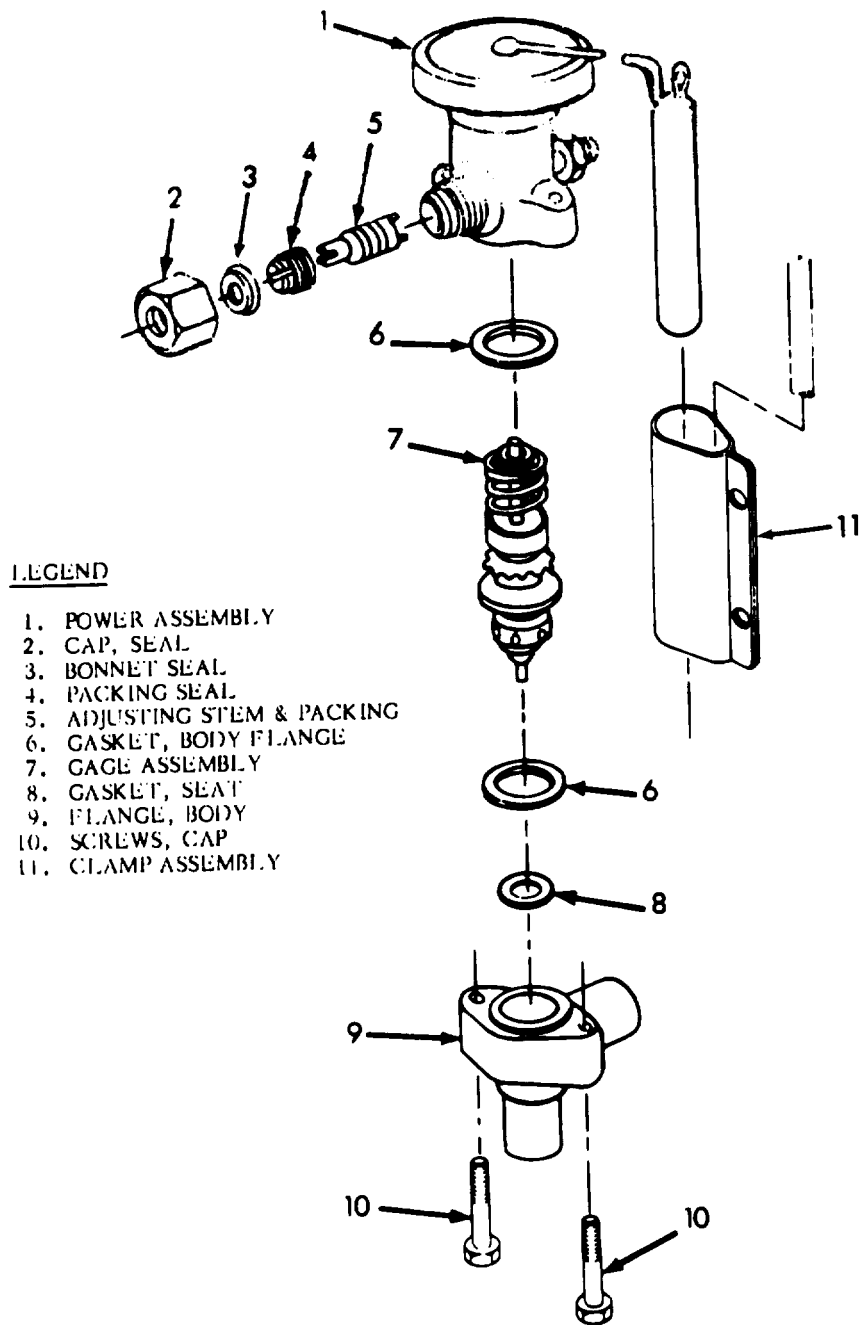

Figure 5-9. Typical Therma¹ Expansion Valve
5.76. Description (See figure 5-9).
A refrigerant gas is said to be superheated when its temperature is higher than the evaporating temperature corresponding to its pressure at saturation. When a thermal expansion valve is set for optimum superheat (in this case 6°F or 3.3°C above the evaporating temperature of the refrigerant at a given pressure) the evaporator coil operates at maximum efficiency. That is, the refrigerant gas does not become warm before reaching the end of the coil, which would reduce the coil's cooling capacity, and the refrigerant does not remain in the liquid state after passing completely through the coil, which could result in severe damage to the compressor. When the expansion valve is properly adjusted, the temperature difference (TD) across the evaporator should be 18-22 degrees F while the air conditioner is operating normally. Compare the dry bulb temperatures of air entering and leaving the evaporator to find the TD. The temperature at the evaporator discharge grill will depend upon the return air temperature. The superheat setting of a thermal expansion valve can be adjusted by varying the setting of a compression spring (7, figure 5-9) in the power assembly of the valve. This spring tends to hold the valve closed against the pressure in the sensing bulb and capillary tube; therefore, the greater the spring pressure, the higher the superheat. Check superheat, and adjust if necessary, in accordance with the following procedure:
(1) Evaporator expansion valve: $6^{\circ} \pm 1.5^{\circ}$ For $3.3^{\circ} \pm 0.8^{\circ}\text{C}$
(2) Quench expansion valve: $30.4^{\circ} \pm 0.5^{\circ}$ For $16.7^{\circ} \pm 0.3^{\circ}\text{C}$
f. If the superheat setting is not within the limits shown above (higher than values in Table 5-2), adjusting the expansion valve as follows: (See figure 5-9).
(1) Remove the hexagonal seal cap (2, figure 5-9) from the side of the powe rassembly (1), and loosen the bonnet seal (3).
(2) Turn the adjusting stem (5) two complete turns to change superheat one degree F. Turn clockwise to raise, and counterclockwise to lower. the superheat setting. Do not turn more than two full turns. then wait two minutes for temperature to stabilize before observing temperature and pressure readings.
(3) When the proper setting is obtained, replace the screw cap and seal on the valve adjusting stem (5).
Whenever a leak is detected or a refrigeration component must be replaced, you must discharge all gas from the refrigeration system (paragraph 5.22.a). Refer to figure 5-8 for identification of service valves. Remove the expansion valve from the air conditioner as directed in the following steps: (See figure 5-9).
a. Disassemble the valve by removing two capscrews (10) that secure the power assembly (1) to the valve body (9), and separate the two.
d. Install power assembly (1, figure 5-9) on valve body, being careful to fit lugs on the cage assembly (7) into the cavities in the body (9). Secure with two capscrews (10). Connect equalizer line, if applicable.
- (1) Unscrew the equalizer tube flare nut from the power assembly of the valve. (See figure 5-9).
- (2) Remove two mounting screws (10, figure 5-9) from the bracket and valve body. Carefully separate the power assembly (1) from the valve body (9), and remove gaskets (6 and 8) and cage assembly (7).
- (3) Provide a flow of 1-2 cfm (0.1 -0.2 M³/min) of dry nitrogen through the system from the discharge service valve for at least three minutes, then debraise the liquid line from the expansion valve.
c. Position the liquid line expansion valve body (9, figure 5-9) on its support bracket, and align by securing with two screws (10) and slave nuts. Do not install power assembly at this time. Braze liquid line to valve body.
d. Install new gaskets (6) and seat (8) in valve body.